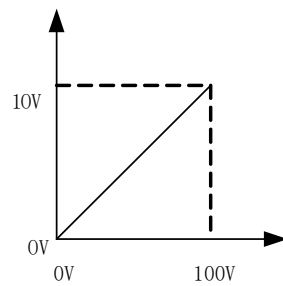

Figure 4-6 Signal equivalent circuit
2. The corresponding relationship between actual displayed voltage value of the welding machine and analog output voltage value of the welding machine, as shown in Figure 4-6;